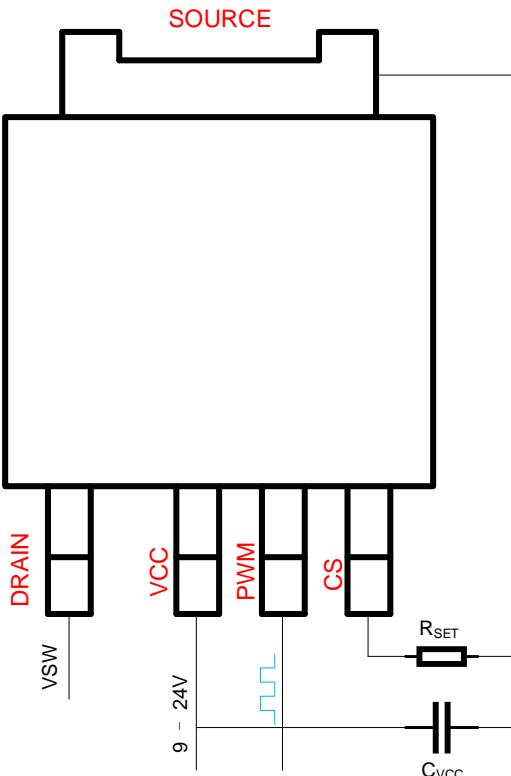

Figure 19. IC connection diagram
The typical connection diagram for this GaN Power IC is shown in Fig 19. The IC pins include drain of the GaN power FET (D), source of the GaN power FET (S), IC supply (V_{cc}), PWM input (PWM), and current sensing output (CS). The external components around the IC include V_{cc} filter capacitor (C_{VCC}) connected between V_{cc} pin and S pin, a current sense amplitude set resistor (R_{SET}) connected between CS pin and S, and a V_{SW} switch connected between D and GND.